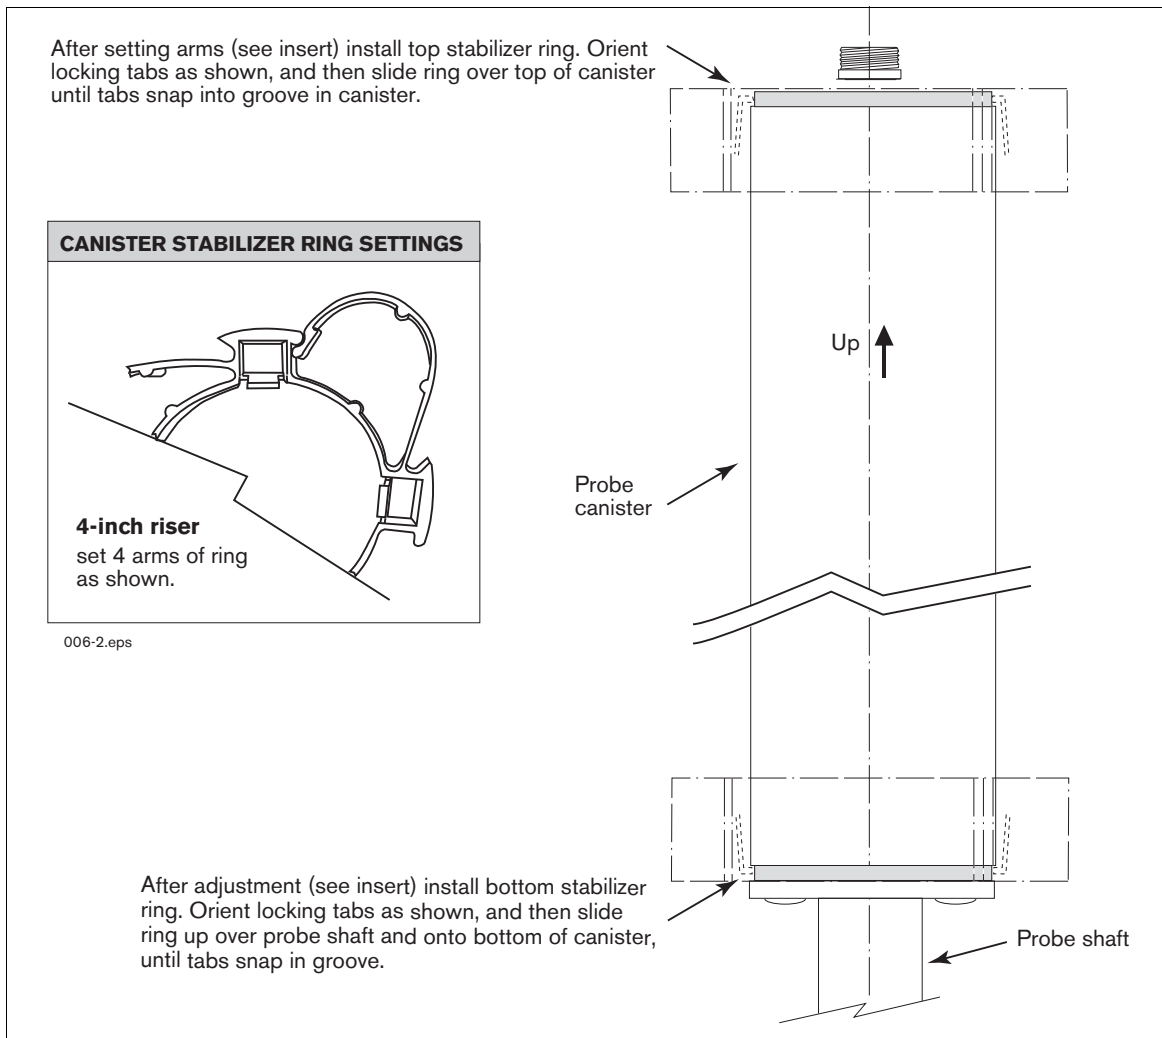

Figure 2. Installing Probe Canister Spacer Rings
2. Open the Phase-Two Float Kit. Set the adjustable arms of the rings for a 4-inch riser (see Figure 2) as required. Install the two stabilizer rings onto the probe canister as shown in the figure. Note: you must slide the bottom ring up over the probe shaft and onto the lower end of the canister.